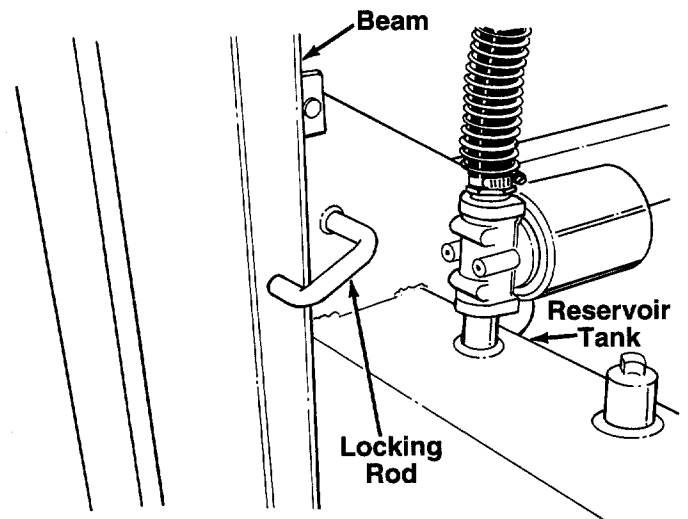

FIGURE 13.
1. Place log splitter on a firm, level surface. For vertical operation, pull the vertical position release rod out and pivot it down to release the beam. Place the beam in the vertical position. Lock the beam in the vertical position, by pulling out on the locking rod and pivoting it to the left. See figure 13.
4. Step behind the reservoir tank (see figures 13 or 14) and push the control handle in forward position until the log is split.